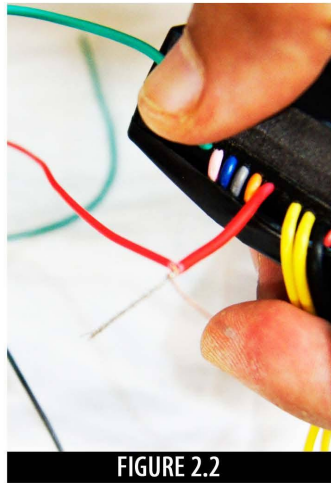

FIGURE 2.2
9. We will now incorporate the battery connector into our steps and connect it with the receiver. Do that by wrapping the positive (+) of the battery connector to the positive (+) of the receiver. Then wrap the negative (-) of the battery connector to the negative (-) of the receiver as seen in Figures 2.2 and 2.3.